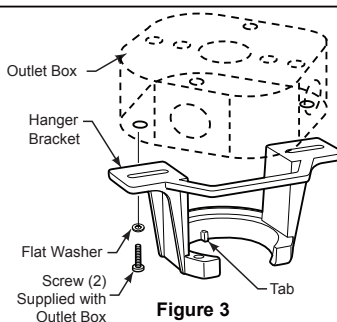

Figure 3
1. Securely attach the hanger bracket to the outlet box (not included) using the outlet box screws and washers supplied with the outlet box. (Figure 3)
2. Slide the receiver into the hanger bracket before wiring as shown in figure 3.